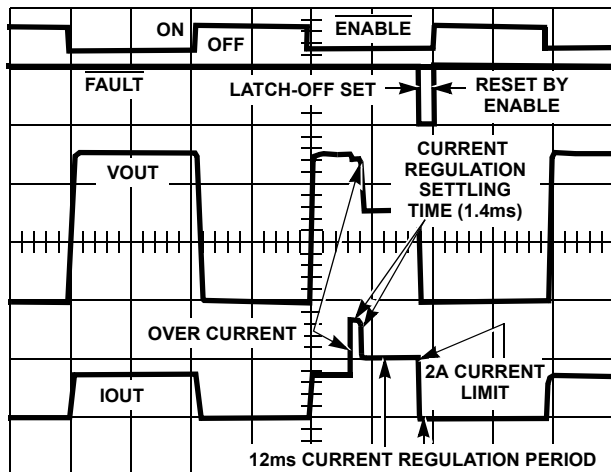
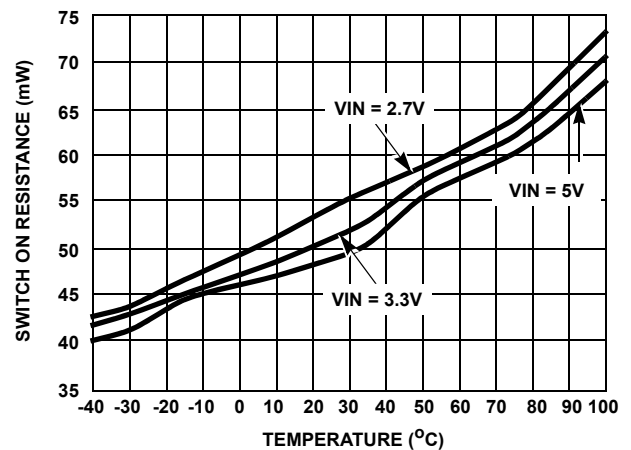

FIGURE 2. OPERATIONAL WAVEFORMS
FIGURE 3. SWITCH RESISTANCE AT 1A
The ISL6121 is a single channel Overcurrent (OC) fault protection IC for the +2.5V to +5V environment. Each ISL6121 incorporates in a single 8 lead SOIC package a 50mΩ N channel MOSFET power switch for power control. See Figure 3 for switch resistance curves. With an enabling input and fault reporting output compatible with 3V and 5V logic allowing for external control and monitoring. See Figure 2 for IC operational waveforms. This device features internal current monitoring, consistent current limiting and an integrated power switch with a current limiting timed delay to latch-off feature for system protection.